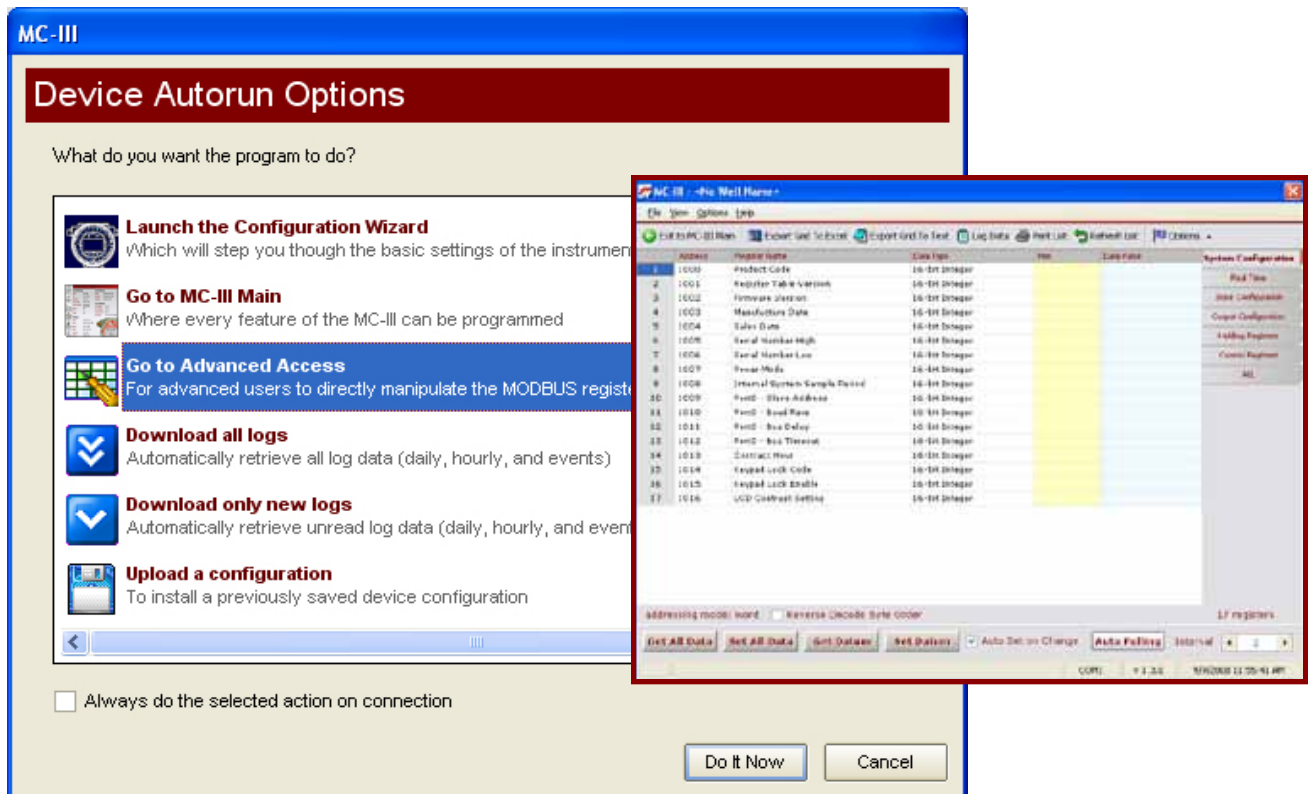

Figure 4.13—Advanced Access configuration option for system configurators and host programmers
- The Advanced screen (*Figure 4.13, page 45*) provides access to Modbus® registers that can be modified to change configuration parameters (recommended only for system configurators and host programmers).